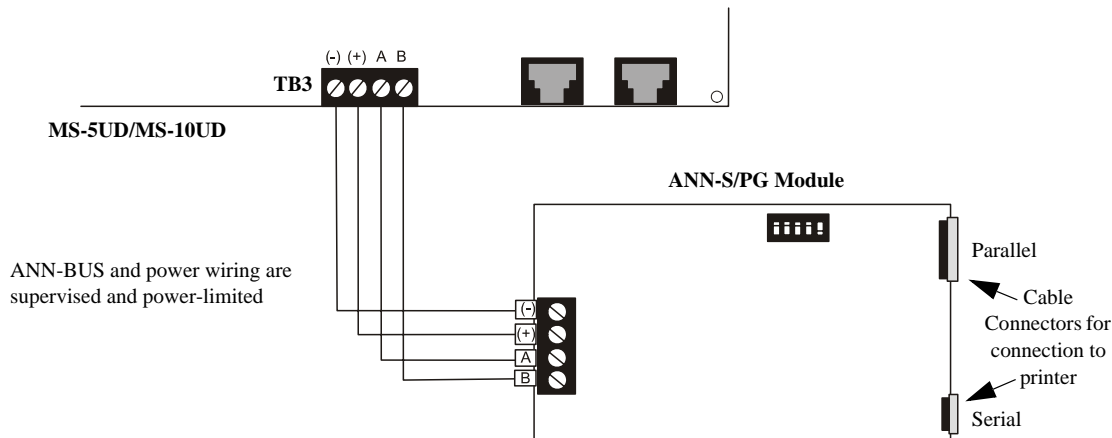

Figure 2.21 ANN-S/PG Connection to FACP
2. Connect the ANN-S/PG to the FACP as illustrated in Figure 2.21
5. Connect a printer to the ANN-S/PG Parallel and/or Serial connectors (refer to Figure 2.21 on page 45)